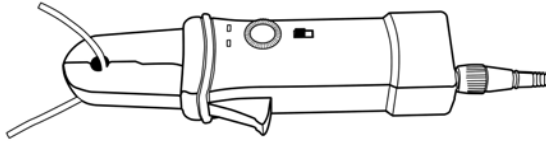

Figure 2: Connecting the current probe
4. Connect the probe to the circuit by opening the jaws with the Jaws Opening Lever and clamping around the conductor. See Figure 2.